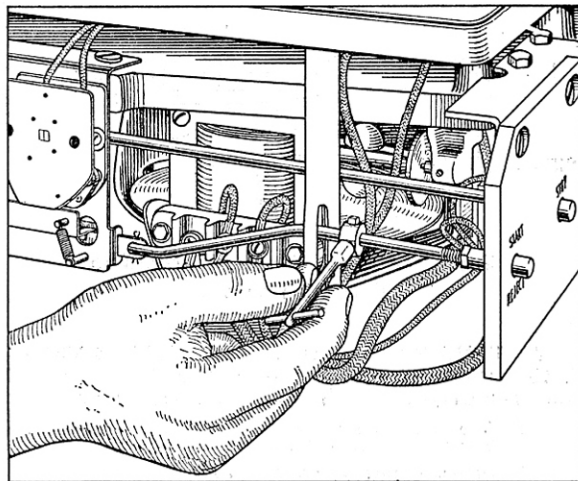

**Fig. 6—Adjusting Height of Hopper**
1. Loosen the hopper support screws as shown in Fig. 6.